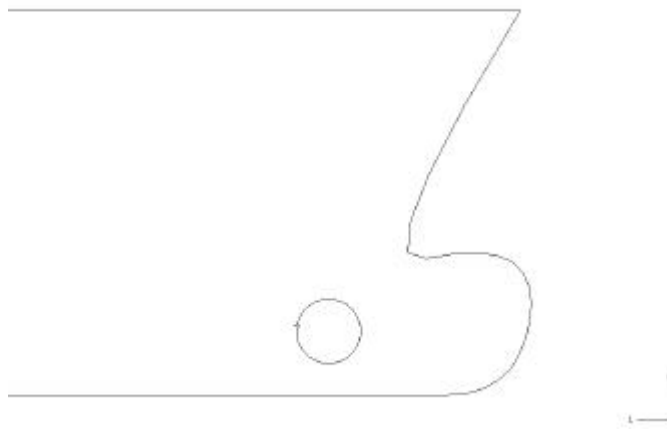

Figure 2-20: Circle curve
5. Change to **S Side** view and zoom in on the area around the newly created curve. (See Figure 2-20.)